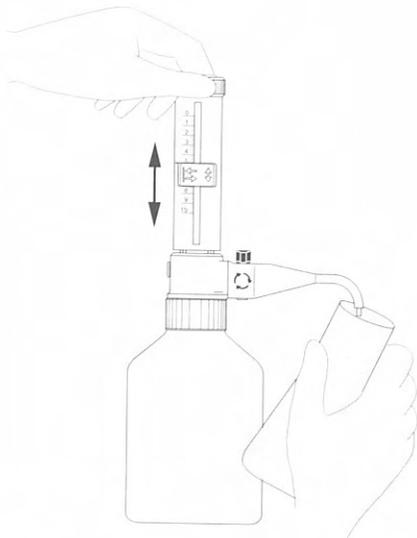

Fig. 5
9.1 Removing air from the instrument (Fig. 5)